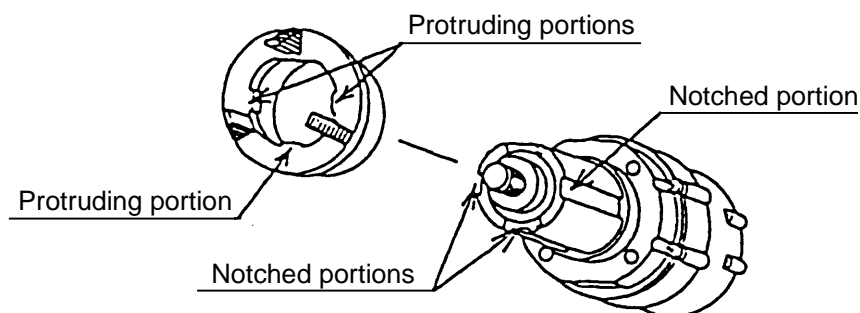

Fig. 11
- (a) When assembling the Spring Holder [10] onto the Spindle and Gear Set [14], ensure that the notched portions of the Spindle and Gear Set [14] are properly aligned with the matching protruding portions of the Spring Holder [10]. (See Fig. 11)